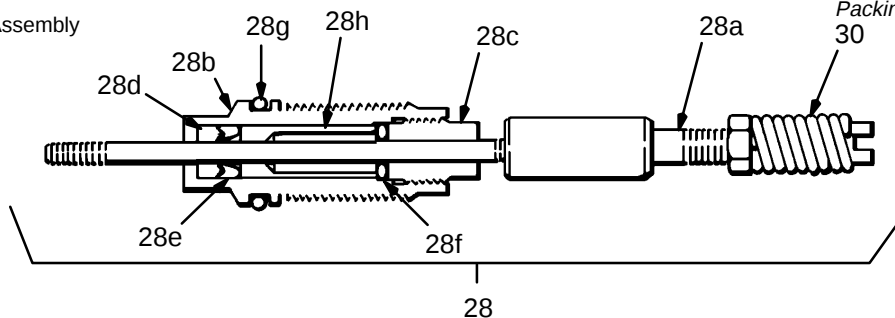

Fig 24
If parts are purchased separately, assemble them as instructed below and shown in Fig 24.
2. Fill the entire inner cavity of the spacer (28h) with petroleum jelly. Place the spacer on the fluid needle (28a) in the direction shown in Fig 24 . Generously apply petroleum jelly to the outside of the spacer.
3. Place the fluid packing (28e), needle packing (28d), and housing (28b) on the fluid needle (28a) as shown in Fig 24.
5. Make sure the spring (30) is installed on the nut as shown in Fig 24.
6. Install the packing and needle assembly into the gun barrel. Using the 9 mm hex nut driver (61), tighten the assembly until just snug, then check the drag on the needle.
8. Install the trigger (13) and tighten the trigger screws (4).